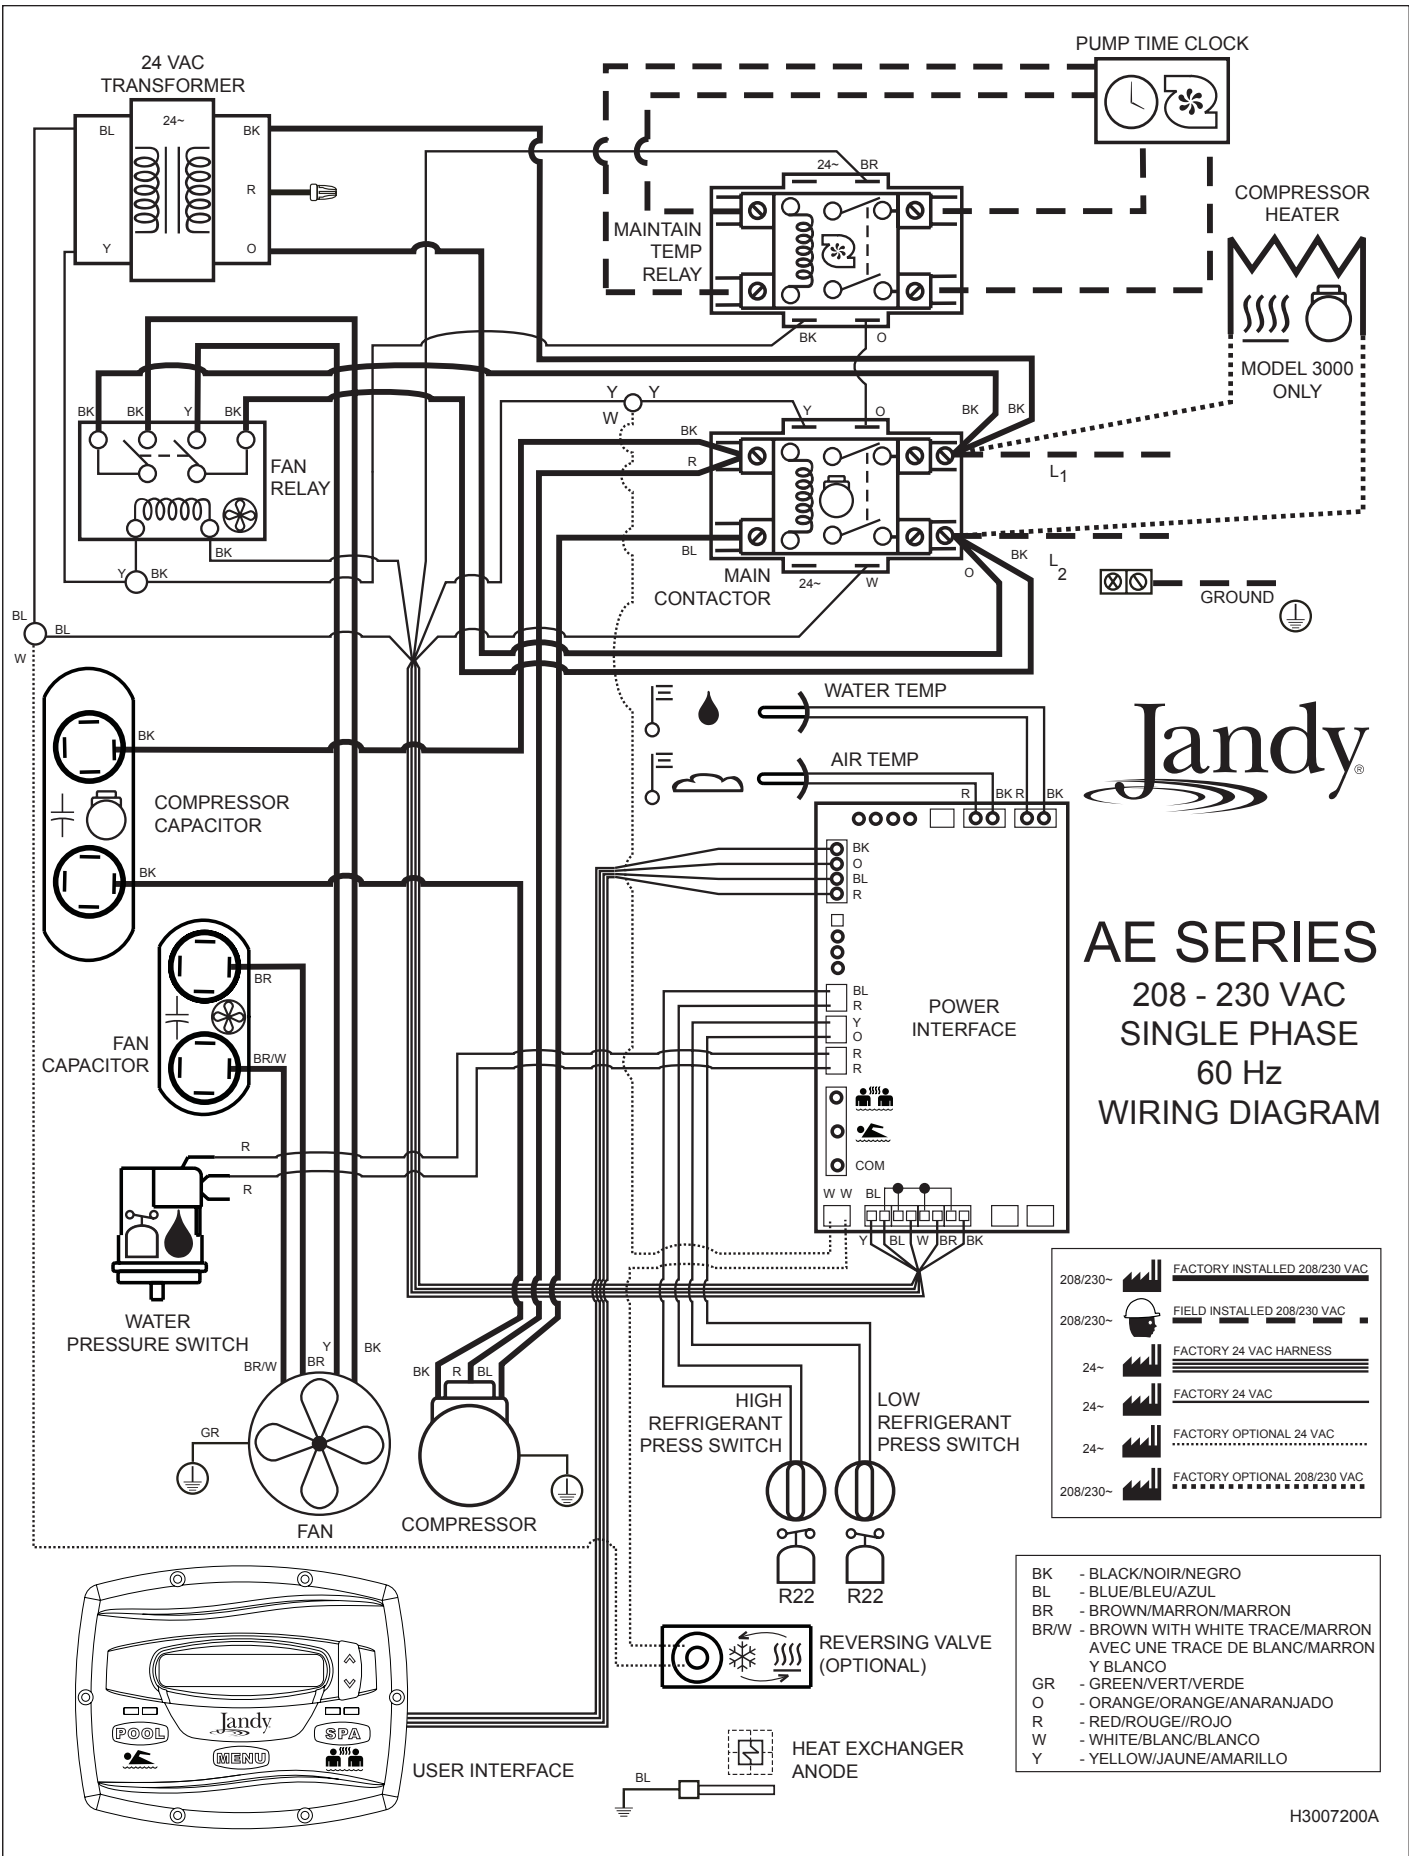

Figure 8. AE-Ti Single-Phase Electrical Supply Wiring Diagram
Wiring connections must be made exactly as shown in the wiring diagram found on the inside of the heat pump access compartment (see Figure 8 for single phase electrical wiring and Figure 9 for 3-phase electrical wiring). The heat pump must include a definite means of grounding and bonding. There is a bonding lug on the right side of the heat pump, where a bond wire must be attached.
5. Connect the wires to the terminals on the main contactor as shown in the wiring diagrams. Refer to Figures 8 and 9.